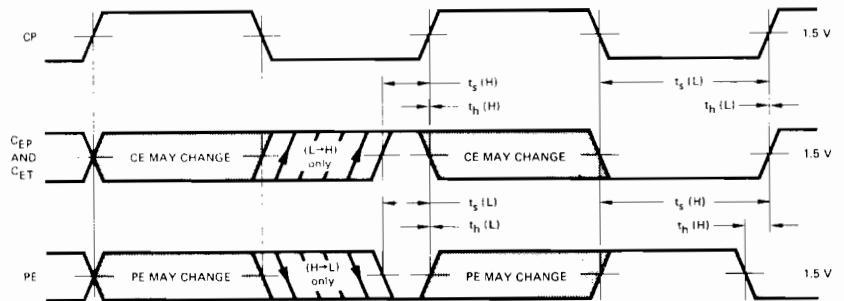

Fig. 6
| t _s (H) | Set-up Time (HIGH) CE to Clock | 26 | 17 | | ns | See Fig. 6 | |